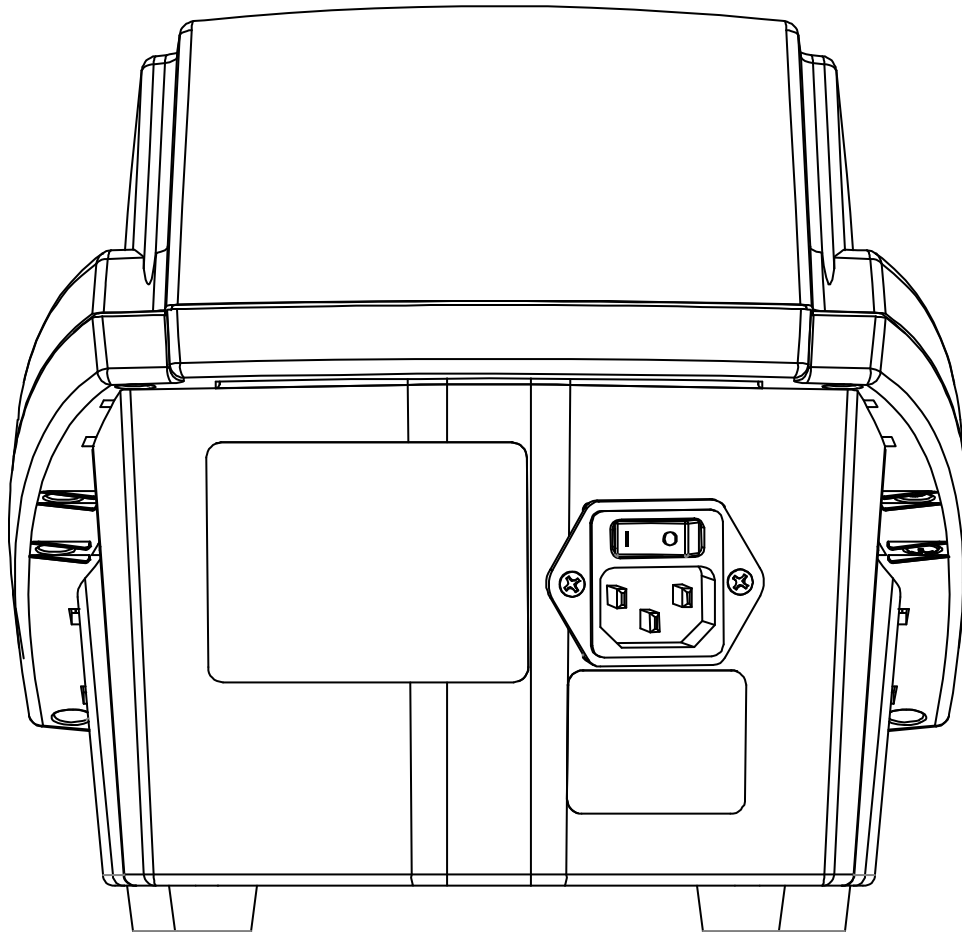

Figure 3.1 – Sys*Stim 228, Back view – Mains Power Switch and Line cord connection
1. Connect the line cord to the back of the Sys*Stim 228. (See Figure 3.1)